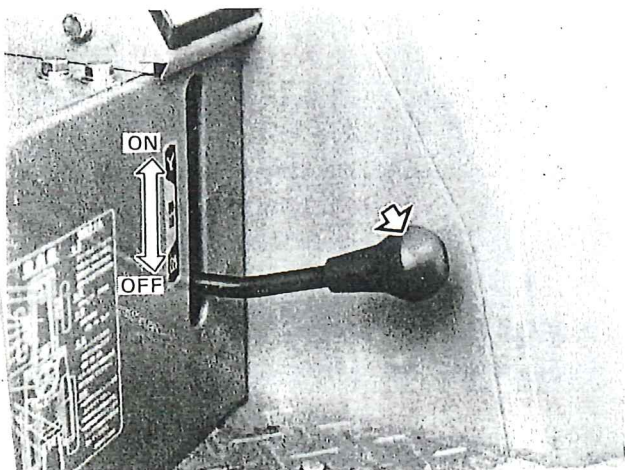

Figure 13 — Four-Wheel Drive Lever
The shift lever for the four-wheel drive is shown in Figure 13. Full downward movement of the lever disengages the four-wheel drive (OFF). Full upward movement engages the four-wheel drive (ON).
The four-wheel drive is engaged and disengaged through the use of the lever inside of the left-hand fender, Figure 13.